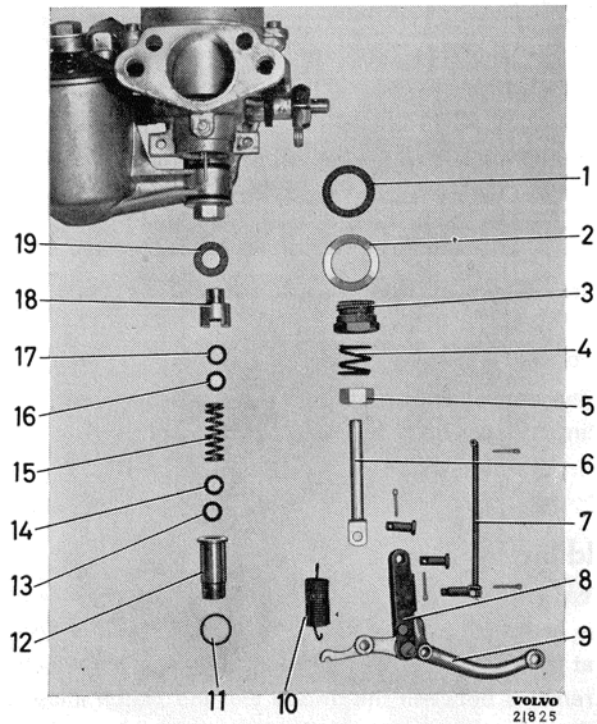

Fig. 13. Jet unit disassembled.
2. Remove the bolt for the jet head and the upper bolt for the link and then remove the lever. See Fig. 13.